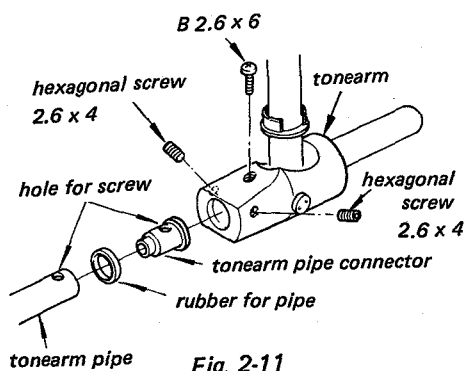

Fig. 2-11
3. Replace the pipe, the rubber for pipe and the connector as shown in Fig. 2-11.
4. Temporarily secure the pipe with two hexagonal screws and the screw B2.6 x 6 as shown in Fig. 2-11.